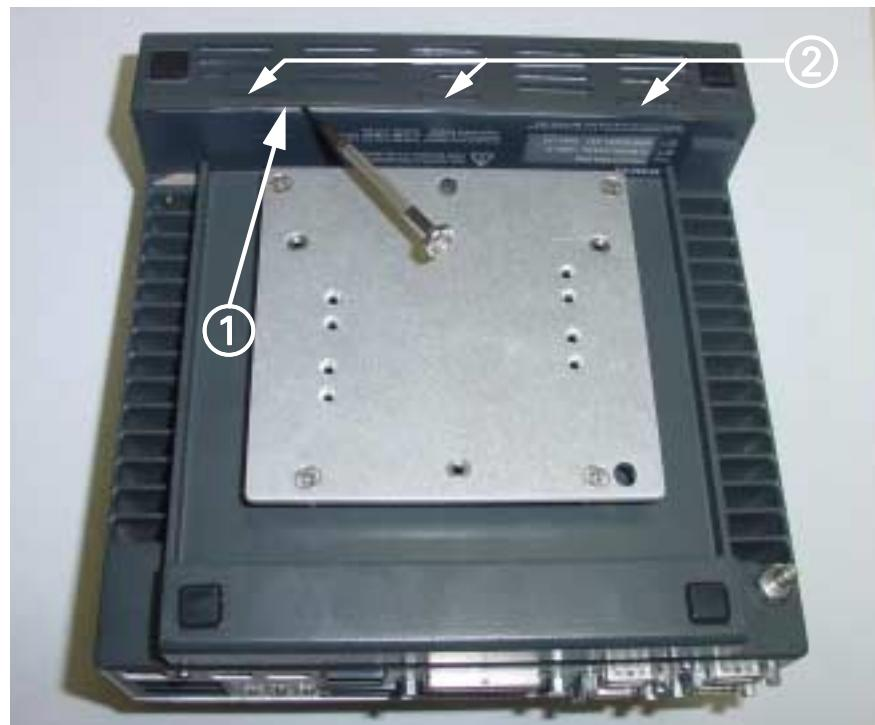
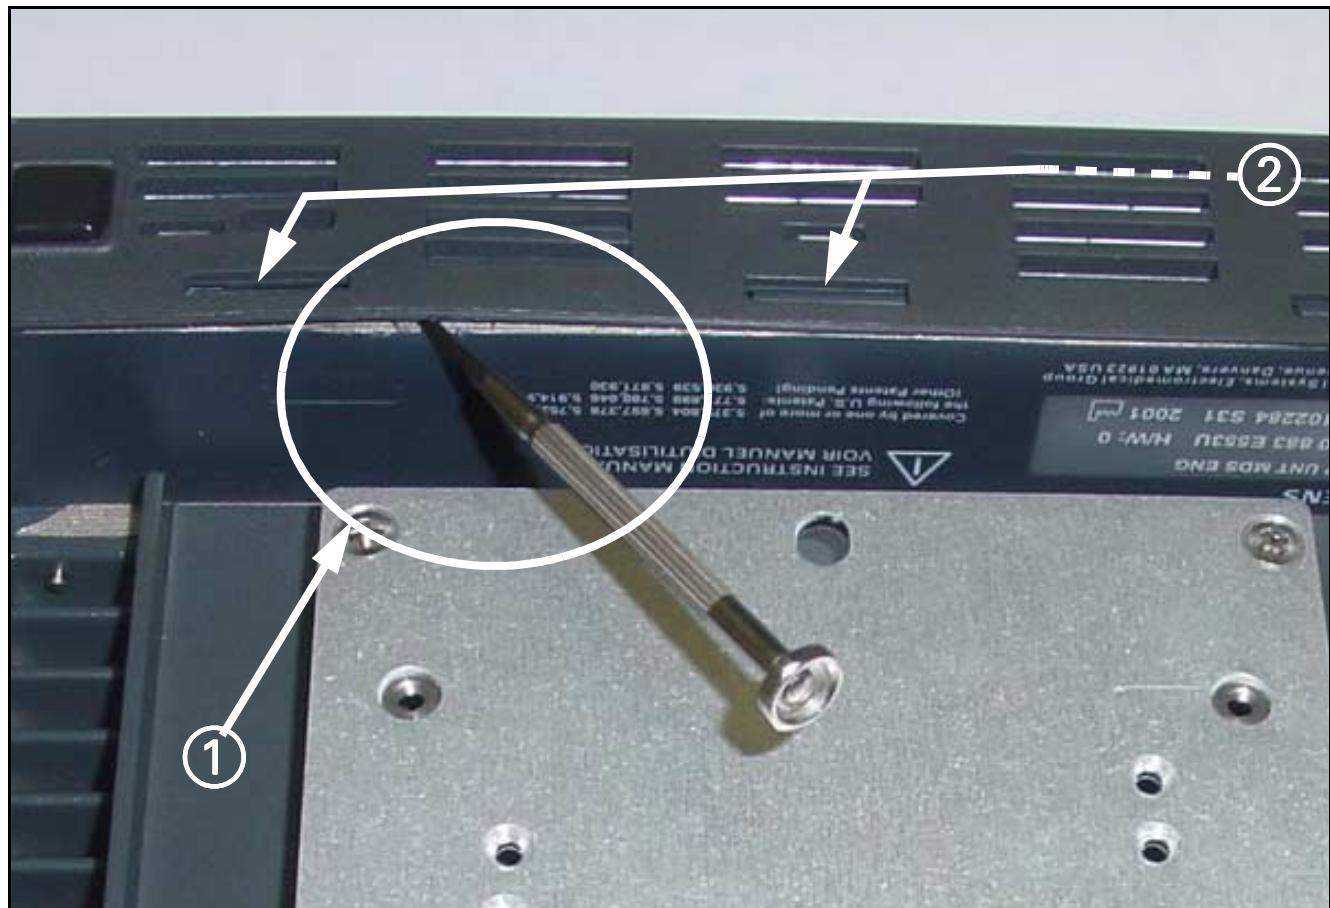

Figure 18-2 MDS (bottom view)
Figure 18-3 MDS exploded bottom view front panel
6. Insert small blade screwdriver between front panel and chassis of MDS (as shown at ① in Figure 18-2 and in Figure 18-3 "exploded view"), close to each of three panel locking tabs indicated by ② in Figure 18-2, and carefully lift up on screwdriver to release front panel from each locking tab (② in Figure 18-2 and in Figure 18-3 "exploded view"), and then pull front panel out so that tabs cannot reset.